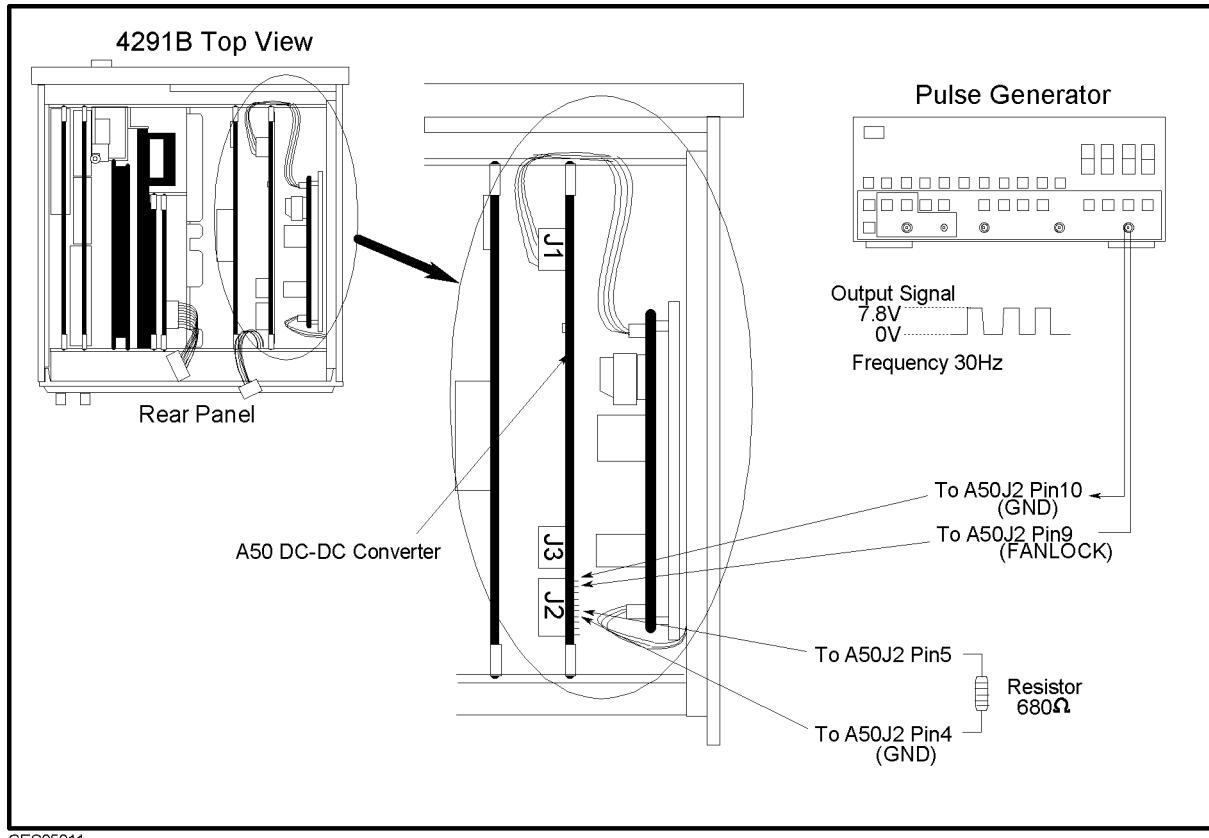

Figure 5-10. A50 DC-DC Converter Troubleshooting Setup
- Disconnect cables from the A50J2 and A50J3. The connector locations are shown in Figure 5-10
- Connect the pulse generator to the A50J2 as shown in Figure 5-10. The pulse generator is used to feed the substitute of the FAN LOCK signal to the A50 DC-DC converter. This prevents not to shut down the A50 DC-DC converter.
- Connect a resistor (approximately 680ohms, 125mW) between the A50J2 pin 5 (+ 7.8 V) and pin 4(GND) as shown in Figure 5-10.